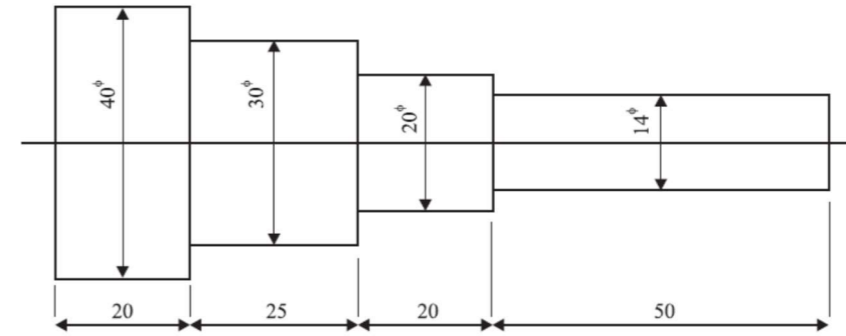

Figure 9 (All dimensions are in millimeter)
- (b) Write a CNC part program for the component shown in the figure 9. Assume the raw material size as  $\phi 42 \times 116$  mm (14) 4 3